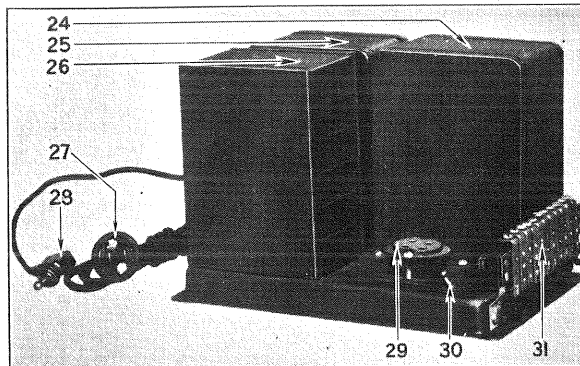

Fig. 5
- Shorted condenser unit, No. 26, Fig. 5.
- Open choke, No. 25, Fig. 5.